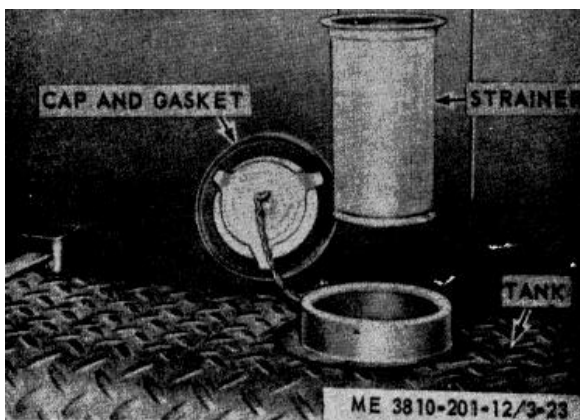

Figure 3-23. Heater fuel tank service (winterized models).
- a. Remove cap and gasket (fig. 3-23).